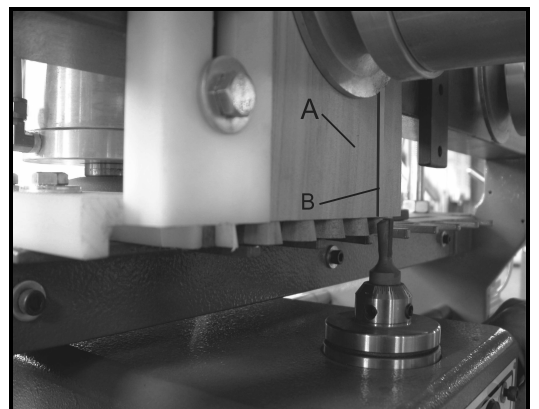

Figure 24
4. Place the drawer RIGHT SIDE against the vertical table and on top the fixed chaser. The RIGHT SIDE should be flush against the fence, with the bottom groove facing outward and opposite the fence (Figure 24).
Occasionally check the oil level in the oil regulator cup (see Figure 24). Add more oil as needed. Use standard air tool oil.